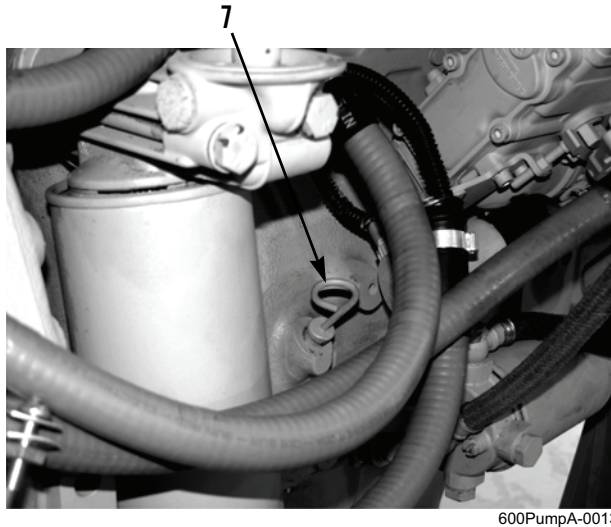

Figure 4. Engine Oil Dipstick.
- Clean area around dipstick (Figure 4, Item 7) with a clean rag. Check oil level on dipstick. Oil should be visible between top (MAX) and bottom (MIN) lines at lower end of dipstick. Add oil through oil filler opening as needed until dipstick reading is correct.